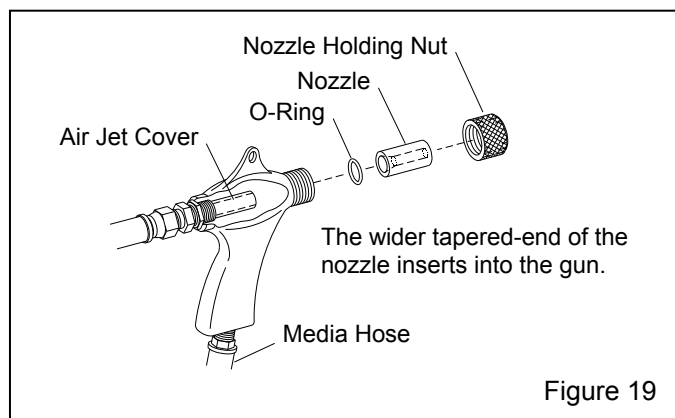

Figure 19
7.2 BNP Gun Assembly, Figure 19